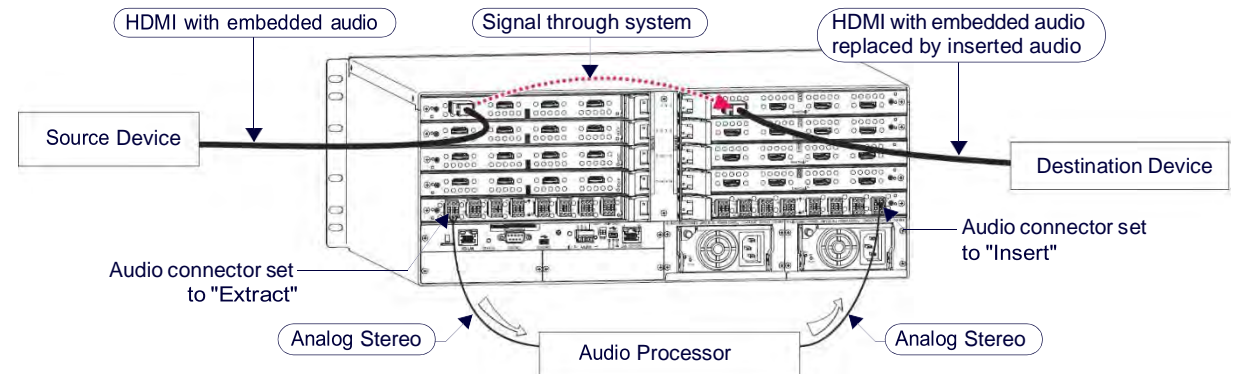

FIG. 104 Audio extracted from HDMI input signal and inserted onto HDMI output signal(s)
- On right – inserted audio replaces embedded audio on HDMI signal and is sent to the destination device (FIG. 104):